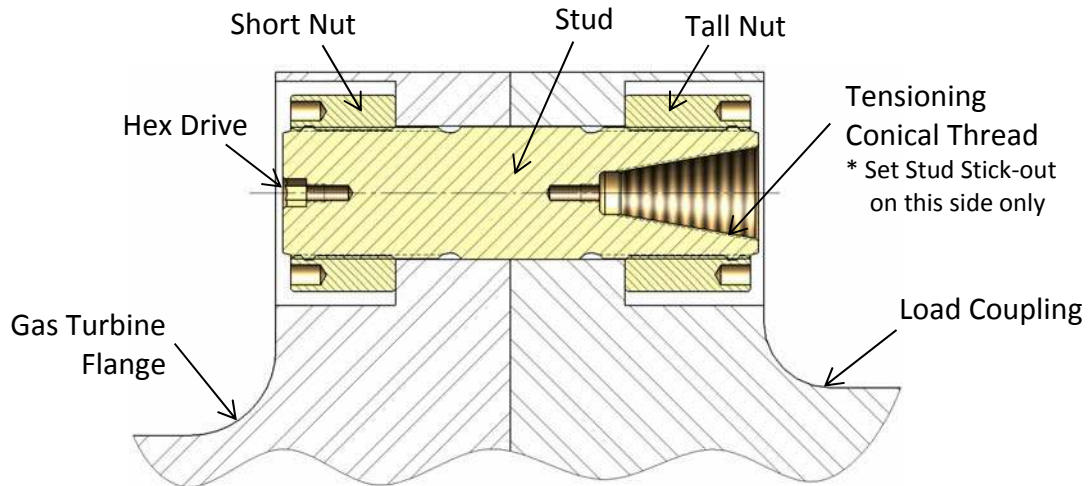

Figure 1A – Cross-section View of Gas Turbine to Load Coupling Bolted Flange Connection
2. Slide the stud and cylindrical nut assembly into the flange as shown in Figure 1A and 1B.